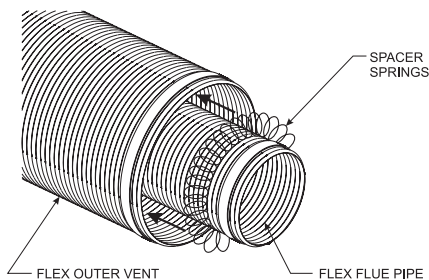
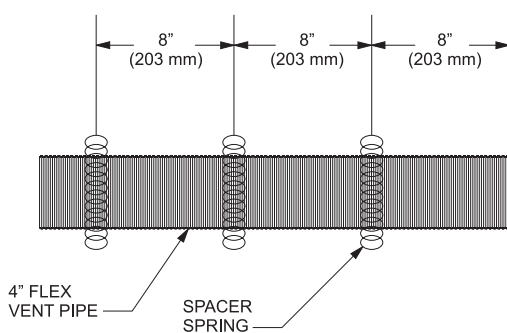

Figure 64
Figure 65
2. Check to see that the vent spacer springs are located around the flue vent at 8" and 12" intervals along its length. See Figure 64. If not, stretch the spacer springs to about 15" long and wrap them around the flue, then interlock the ends of each spring about 2". See Figure 65. Maintain equal distance between spring spacers.